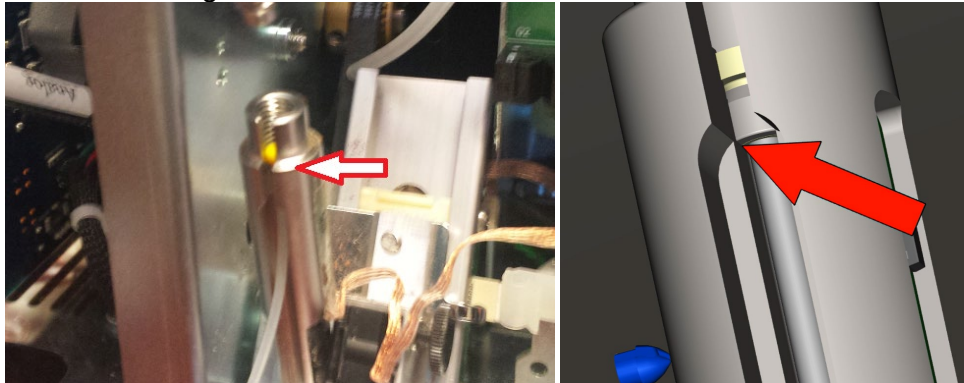

Figure 27
- 8.3. Insert the new Needle-to-Reading Cell Tubing into the Needle Piston Assembly by ensuring that the tubing is resting on the lowest possible “ledge” of the interior of the Needle Piston. Figure 27